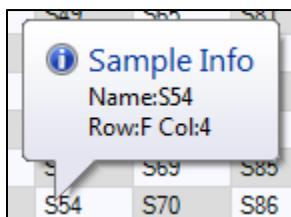

Figure 33. Well information.
3. Hold the mouse over the cell to see all the information entered about the well (Figure 33).